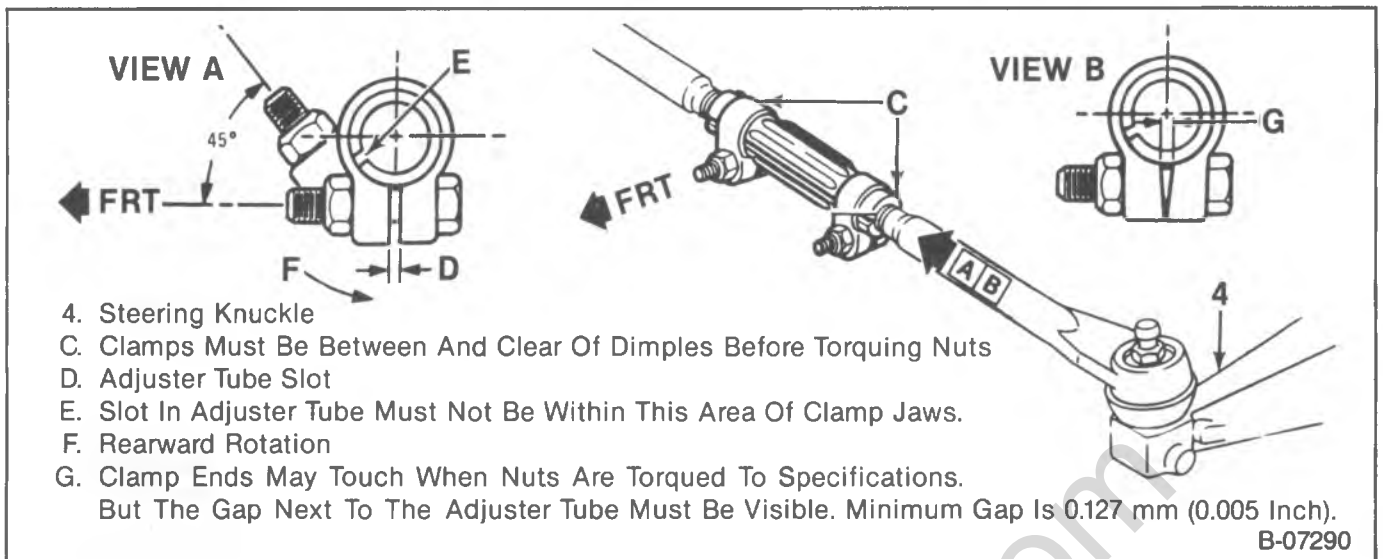

Figure 10—Tie Rod Clamp and Adjuster Tube Positioning — R Model
🔧 Adjust (Figures 10, 11, and 12)
6. Adjuster tube clamp bolts (figures 10, 11 and 12). Before tightening the clamp bolts, be sure the following conditions have been met:
- The clamps must be positioned within the angular travel shown in figures 10, 11 or 12.
- The clamp ends may touch when nuts are torqued to specification, but the gap next to the adjuster tube must NOT be less than the minimum dimension shown in figures 10, 11 or 12.